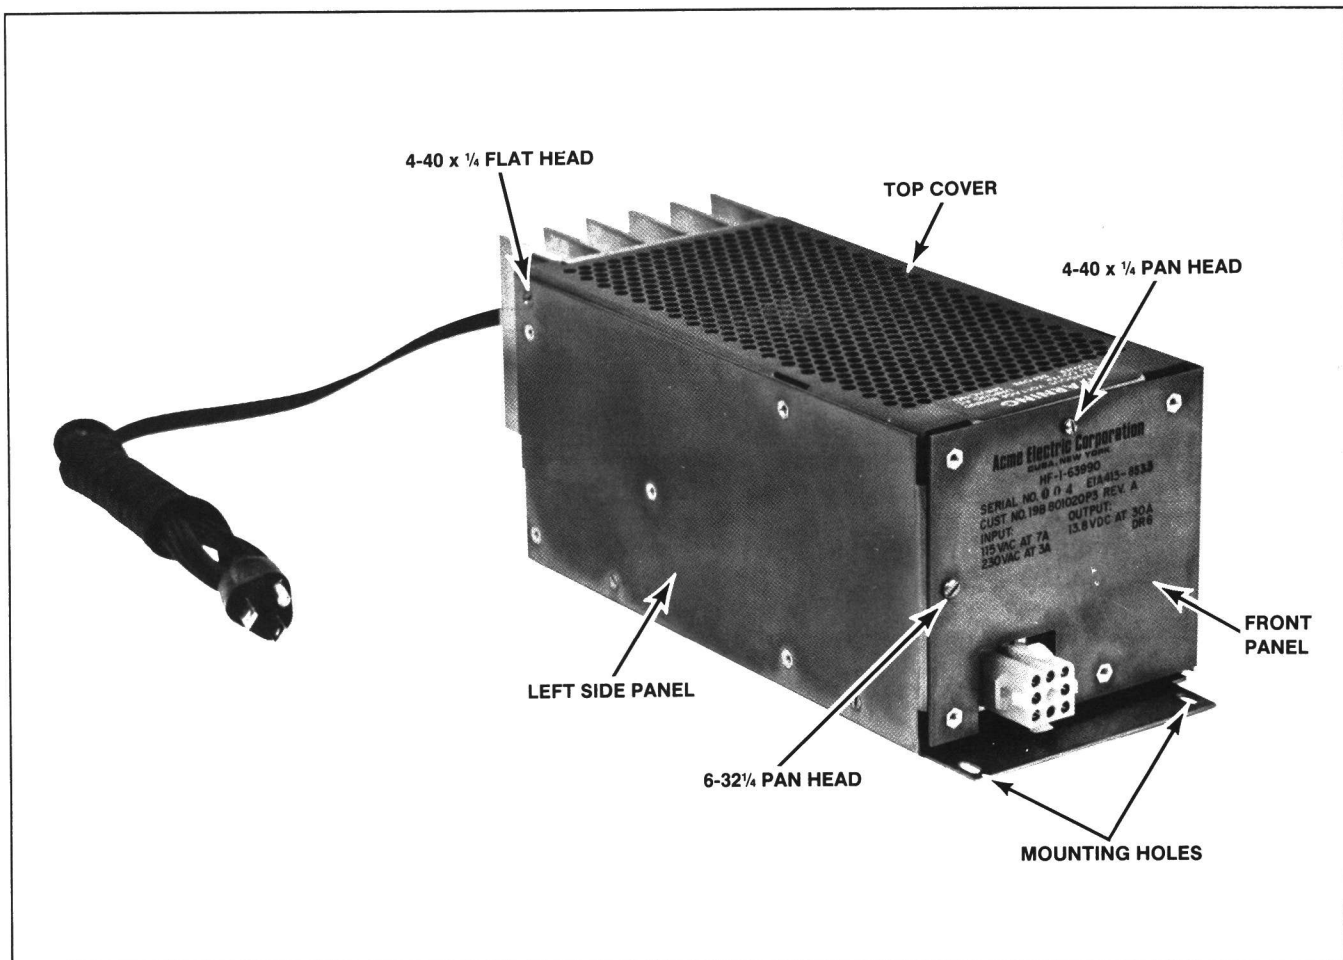
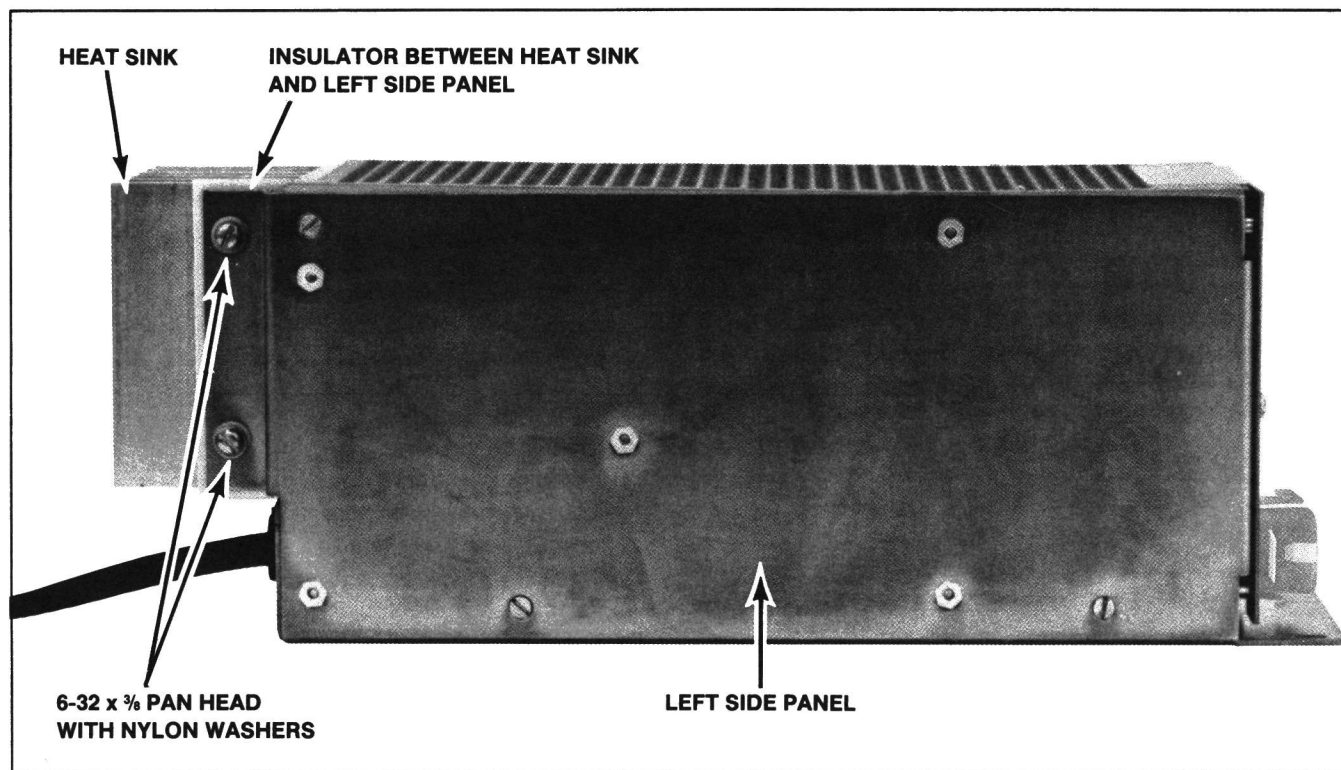

Figure 1 - Overall External View
Figure 2 - Left Side View
2. Remove the 4-40 x 1/4 pan head screw from top center of the front panel. Remove the 6-32 x 1/4 pan head screw from the left center of the front panel. Remove the 4-40 x 1/4 flat head screw from the top of the left side panel (see Figure 1). Remove the two 6-32 x 3/8 pan head screws and nylon washers holding left side panel to heat sink (see Figure 2). Note the insulator between the heat sink and left side panel.
The power supply can be mounted by using the mounting holes on the chassis (Figures 1 and 4).